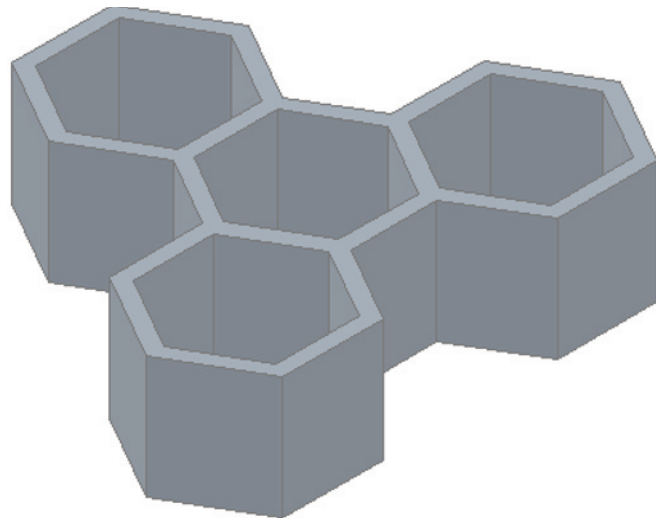

Fig. 13.40 Exercise 2
2. Fig. 13.40 shows a 3D model constructed from four polysolids which have been formed into a union using the **Union** tool from the **3D Make** control panel. The original polysolid was formed from a hexagon of edge length **30**. The original polysolid was of height **40** and Width **5**. Construct the union.